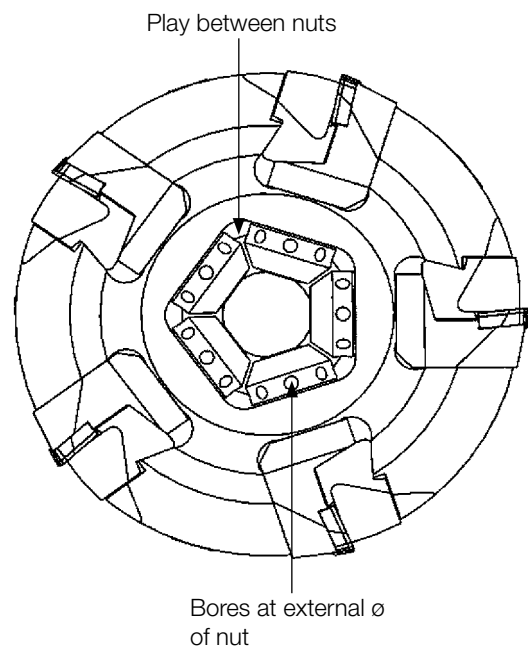

FIG. 6
- Now lightly tighten the spindle clockwise. Assemble all inserts in the same way. When assembled correctly there must still be play between the nuts (fig. 6). The tightening screw Guh. no. 3009 63,000 must be able to be guided centrally between the nuts without exerting force. Also the spindle on the outer side of the milling head must not protrude out of the clamping wedge.